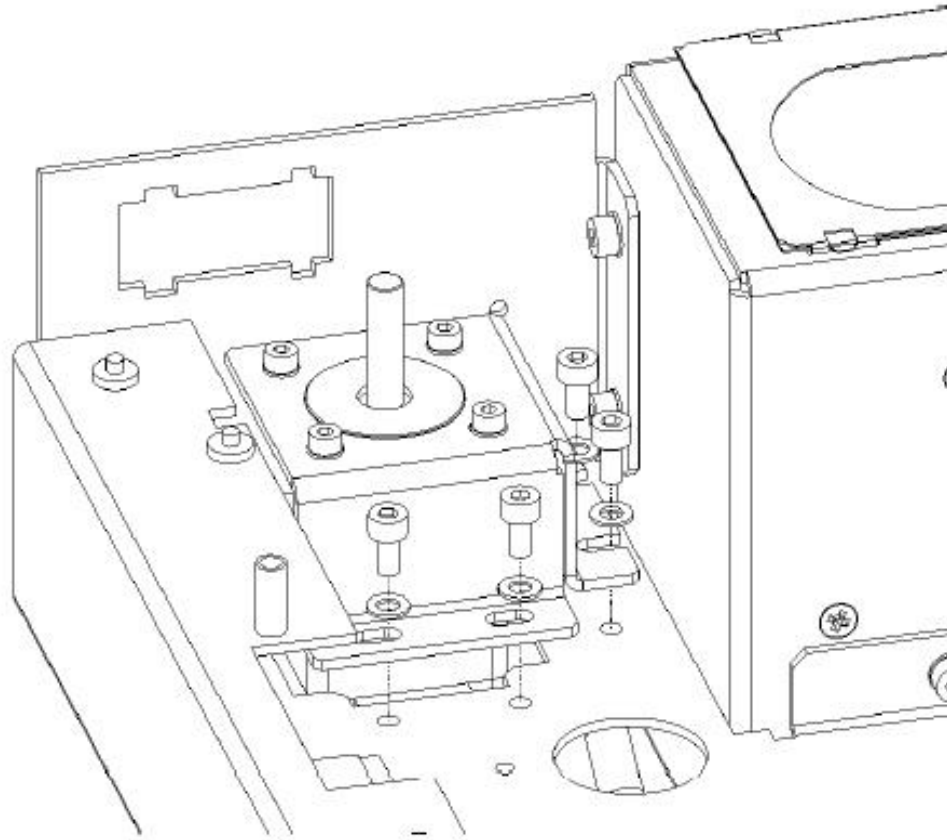

Figure N-16: Motor Assembly
2. Remove the 4 screws that attach the motor to the baseplate (Figure N-16).